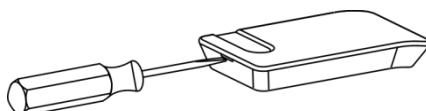

Fig. 4. How to open the case.
- 4. Battery installation.** When the empty battery symbol (Fig. 3) appears on the keypad display next to the AVA KEY icon, the batteries need replacement. To do this, place a flat screwdriver in the place shown in Fig. 4 and gently pry the housing apart. Repeat this action in several spots on the opening line until the case is entirely separated. Then, the PCB plate shall be removed, the spent batteries shall be pushed out in the directions shown in Figure 3, insert new batteries (with the + up), place the plate on the rear portion of the device and close the case